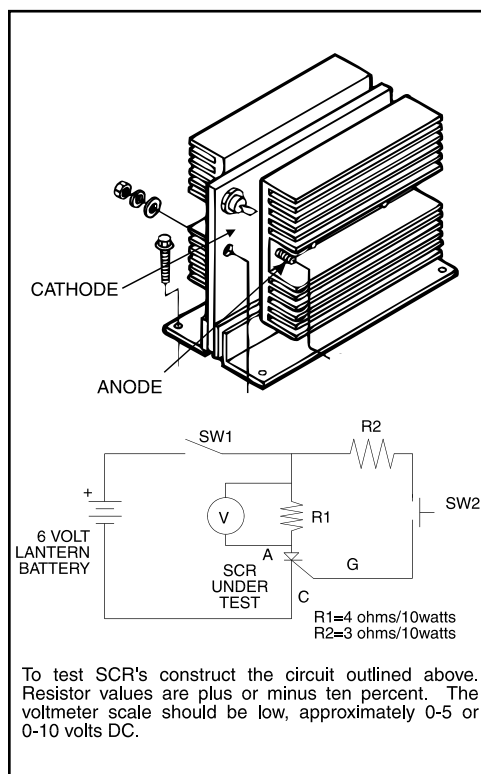

FIGURE F.7 - SCR Tester Circuit and SCR connections.
7. Connect the Tester to the SCR 1 as shown in Figure F.7.
- a. Connect Tester lead (A) to the anode.
- b. Connect Tester lead (C) to the cathode.
- c. Connect Tester lead (G) to the gate.
13. Reconnect the Tester leads. See Figure F.7.
- a. Connect Tester lead (A) to the cathode.
- b. Connect Tester lead (C) to the anode.
- c. Disconnect Test lead (G) from the gate.